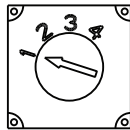

Figure 4: Battery Voltage/Charge Profile Select Switch (on bottom of regulator)
1. Regulator has four selectable set points. Before installing regulator, verify appropriate switch setting for your application and change if necessary. See Figure 4 and Table 1 for fixed voltage set point options when used without battery sensor/harness. See Table 2 for battery chemistry-based charge profiles when used with compatible CEN battery sensor/harness. **Contact battery manufacturer or vehicle OEM for charging set point recommendations for your environment or application if necessary.**